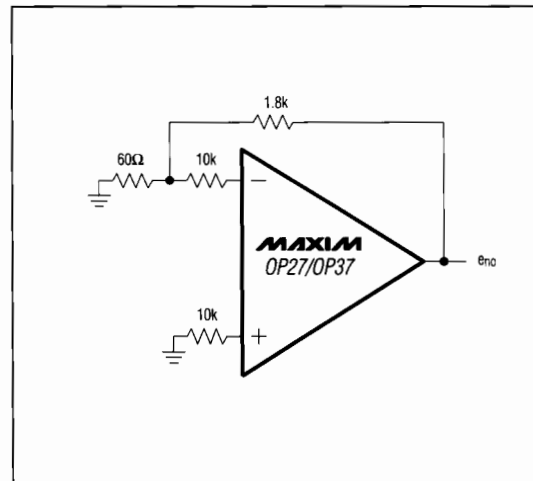

Figure 2. Current-Noise Test Circuit
- Note 8:** See test circuit for current-noise measurement (Figure 2).